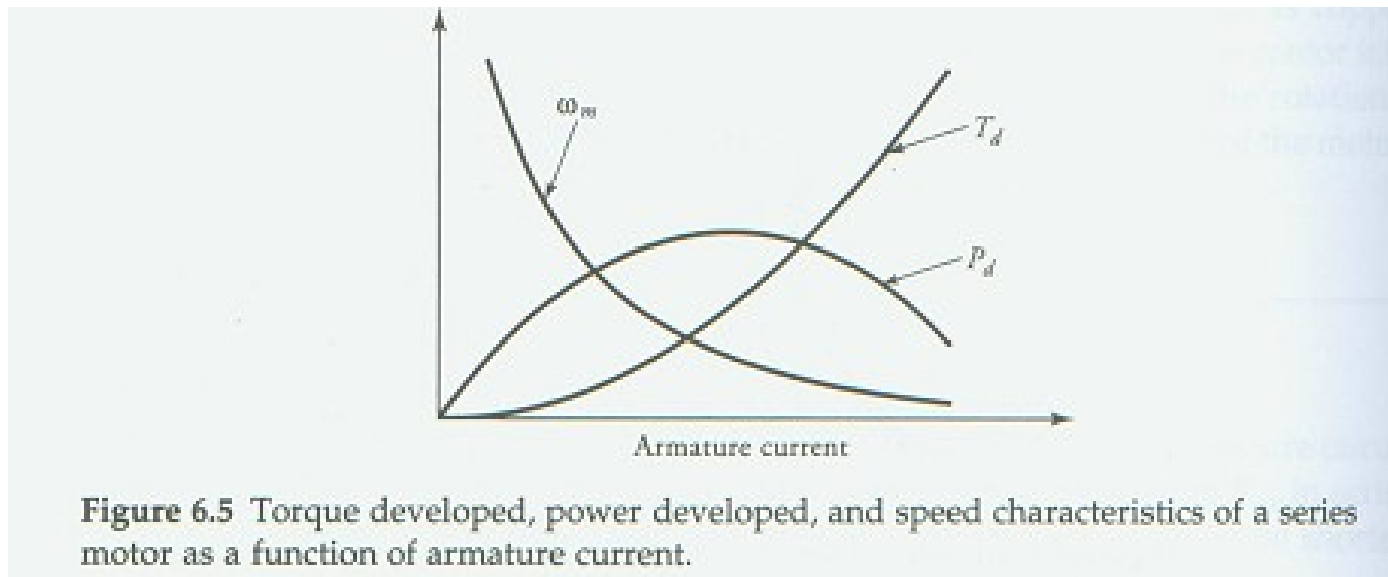

Figure 6.5 Torque developed, power developed, and speed characteristics of a series motor as a function of armature current.
- The torque versus armature current characteristic of a series motor is given in Figure 6.5.